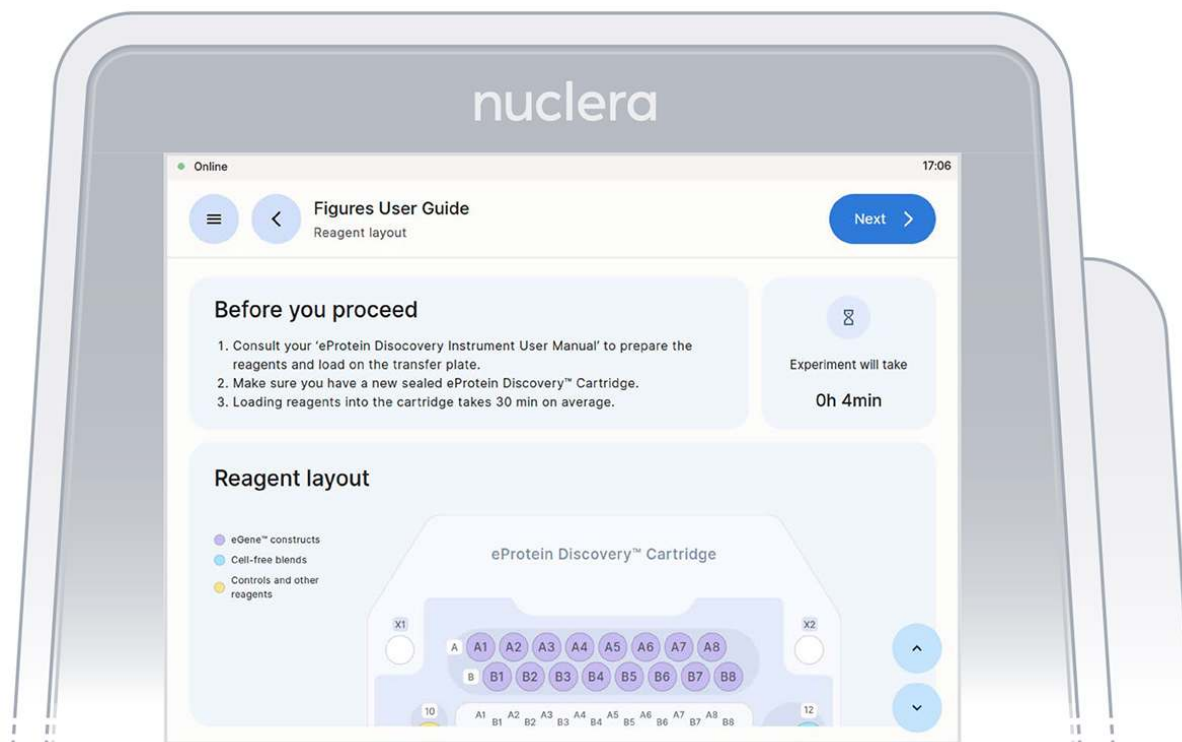

Figure 8: Instrument software welcome page with the list of finalized experiments
4. Read the Before you proceed section and press the **[Next]** button (Figure 8).